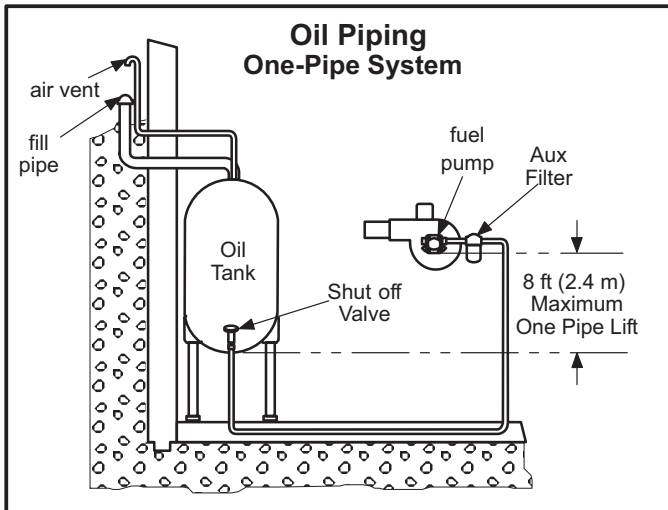

Figure 16
When using a one-pipe system with the oil tank even above the burner and a vacuum of 6" (152 mm) Hg or less, a single-stage fuel pump with a supply line and no return line should be adequate. See figure 16. Manual bleeding of the fuel pump is required on initial start up. Failure to bleed air from the oil pump could result in an air lock/oil starvation condition.
- 2 - Arrange the primary burner control for continuous operation during purging. See figure 16.